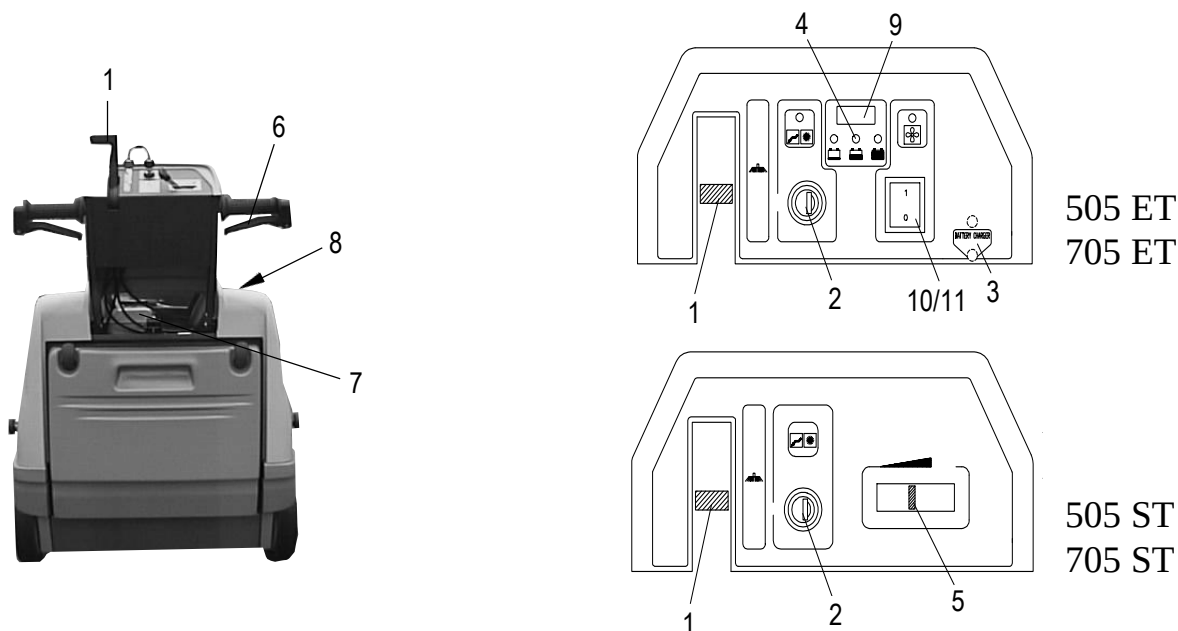

Fig. 3
- Switch the brush lift lever **pos. 1 Fig. 3**, to **OFF**.
you will not be able to operate the key **pos. 2 Fig. 3** on the dashboard. For more detailed information on the engine consult the relevant manual.
- Make sure the side brush **pos. 1 Fig. 3** is **OFF**.
- Turn the switch **pos. 2 Fig. 3 ON**. Wait 10 seconds before the machine sets off.
- Before the machine sets working, check the indicator **pos. 4 Fig. 3**, to assess whether the battery is fully charged. If it is not, proceed to recharge it.
- Pull the traction lever **pos. 6 Fig. 3**, to start cleaning.
- If necessary, operate lever **pos. 1 Fig. 3**, by turning it **ON**, to start the side brush. If you have been using the side brush, at the end of your work remember to turn it **OFF**. Switch off the machine and remove the key from the control panel.
- Make sure the side brush **pos. 1 Fig. 3**, is **OFF**.
- Switch accelerator lever **pos. 5 Fig. 3**, to **START**.
- Place the key **pos. 2 Fig. 3** on **ON** position.
- Act on the accelerator **pos. 5 Fig. 3**, to reach the required speed.
- At the end of your work, if you have been using the side brush **pos. 1 Fig. 3** turn it **OFF**. Turn the accelerator lever to **START** and turn off the machine with the key **pos. 2 Fig. 3**. Close up fuel tap **pos. 3 Fig. 4**.